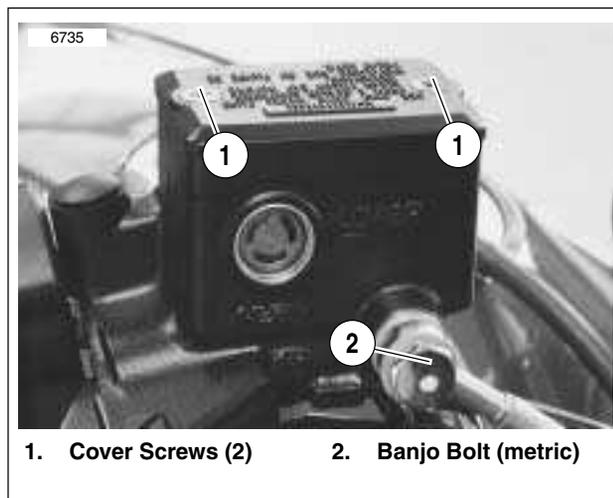

Figure 1-10. Front Master Cylinder
- b. Remove two screws from front master cylinder cover. Bring fluid level to within 1/8 in. (3.2 mm) of molded boss inside front master cylinder. See Figure 1-10.